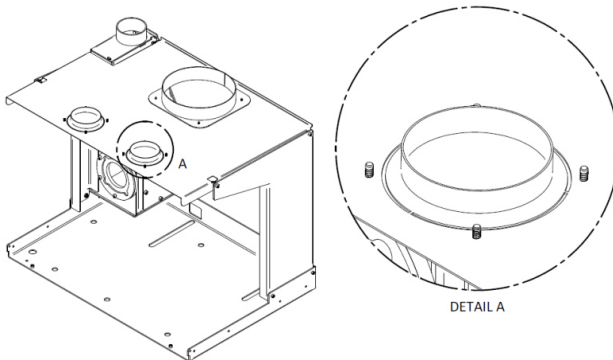

Figure 21 - Installation of the pellet insert
3. To access the top of the cover (Figure 21). It can be observed that the upper part comes with the installation of 2 air outlets of 100 mm, with a pliers cut the micro joints to install the tubes for the ducted hot air.
4. It is important that the bolts or rivets used to secure the air outlets be fixed from the bottom up so that a minimum height is allowed inside the insert to not interfere with the proper extraction of the equipment during maintenance, see Figure 21.